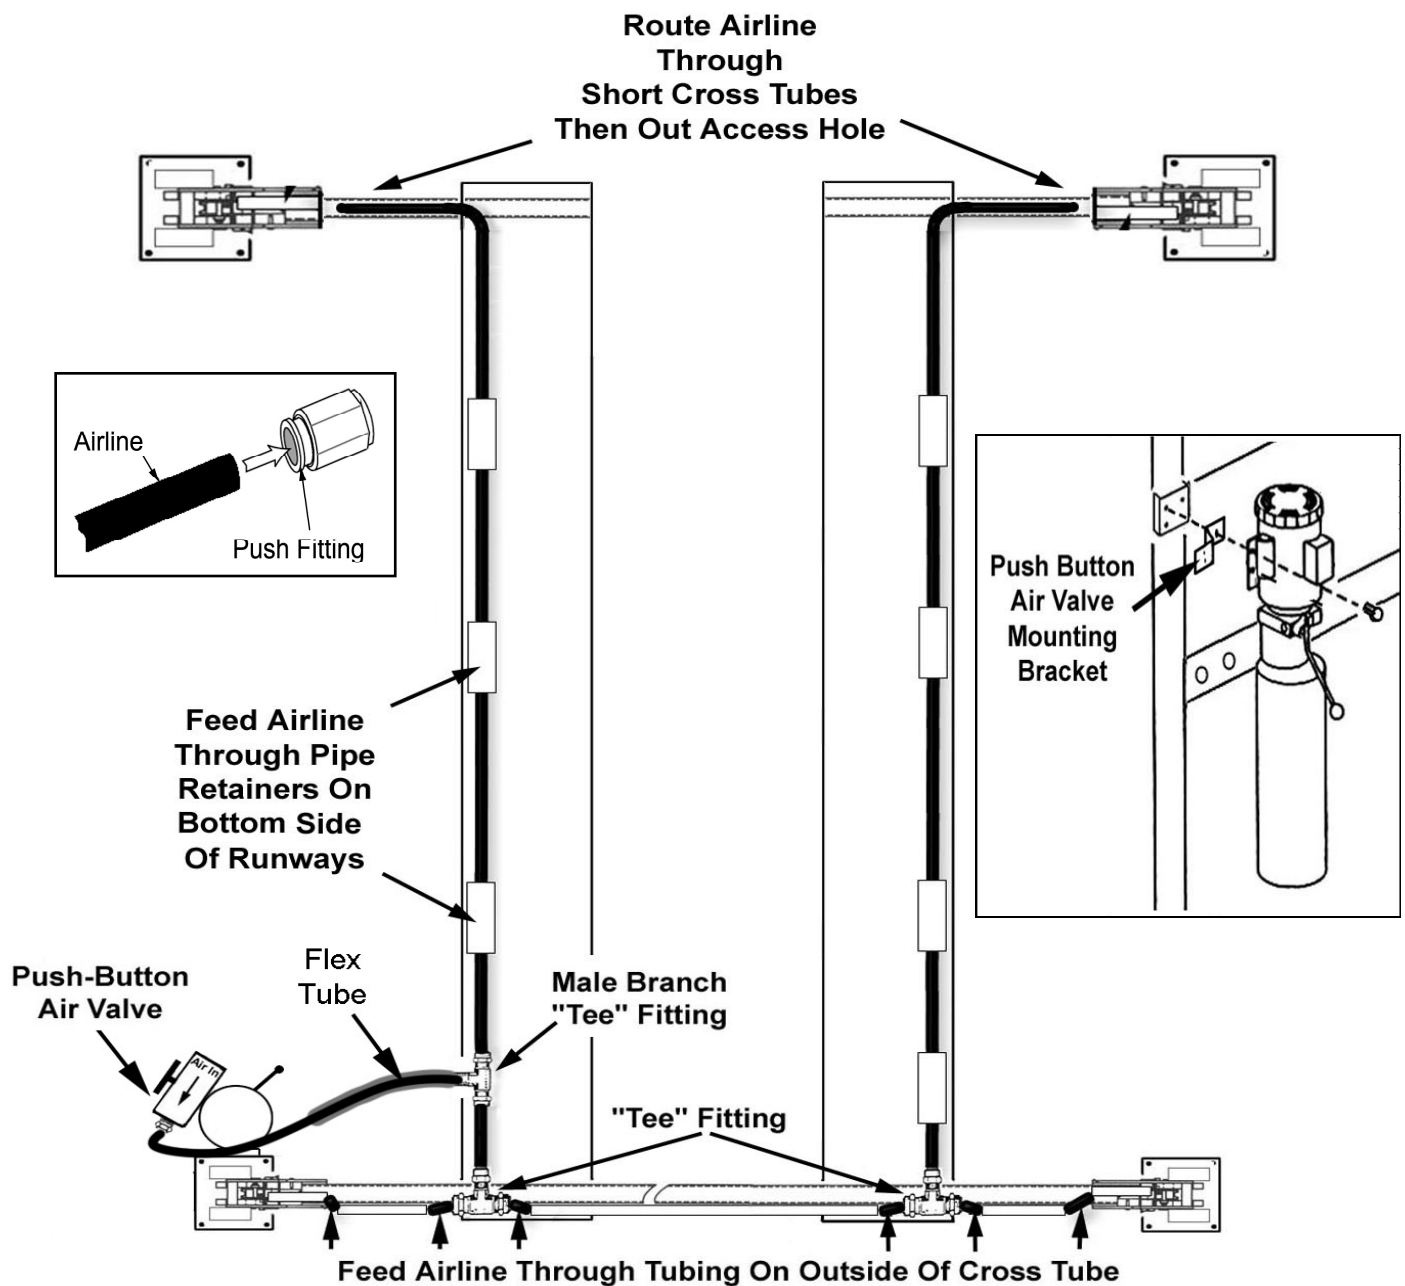

Fig. 12.1
**AIR PRESSURE SHOULD BE REGULATED TO 125 PSI MAX.** (See Fig. 12.1)